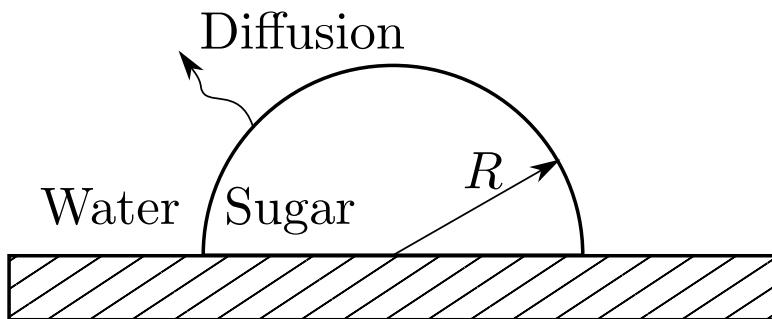

Figure 23: The lump of dissolving sugar.
- b) A hemispherical lump of sugar, initially of radius $R = 0.005$ m, is dropped into a cup of tea, quickly coming to rest on the bottom of the cup as shown in Fig. 23. The sugar lump then slowly dissolves into the tea. The diffusion coefficient of sugar in tea is 4×10^{-10} m² s⁻¹. The saturation mole fraction of sugar in tea is 0.1 and the total molar density of the system is $c = 55 \times 10^3$ mol m⁻³.